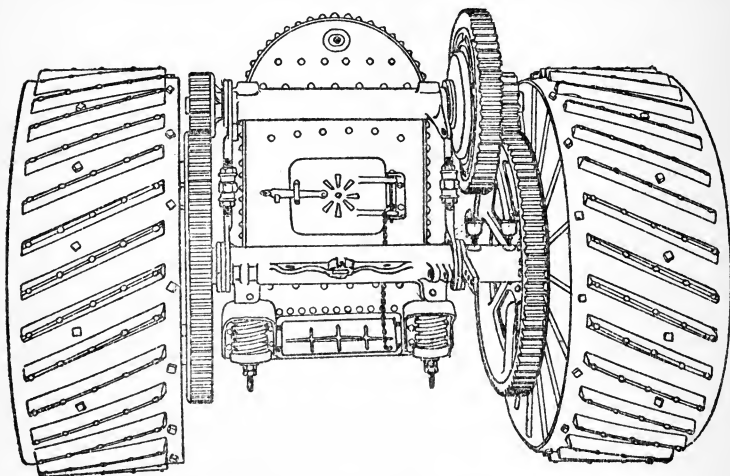
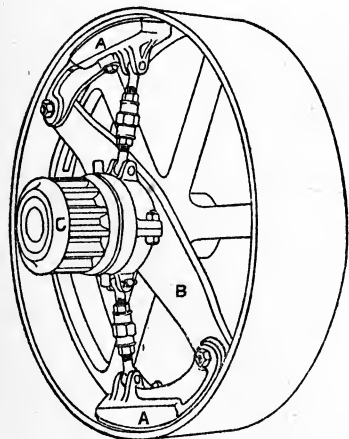

FIG. 30. CUT SHOWING CANNON BEARINGS AND GEARING.
FIG. 31. FRICTION CLUTCH.
(Fig. 30), press lightly against the rim of the fly-wheel, transmitting only part of its motion to the gearing. But when in full engagement, the shoes press so hard against the rim of the fly-wheel that they prevent slipping, thus locking the fly-wheel and pinion, (C), together. The two shoes are hinged to the ends of the arm, (B). This arm has a long sleeve, which is loose upon the shaft, but at the end of which the pinion, (C), is firmly keyed. The sliding ring, (D), (Fig. 31), is loose upon the sleeve, and when moved toward the fly-wheel, straightens the toggle levers, thus pressing the shoes against the rim of the fly-wheel, thus pressing the shoes